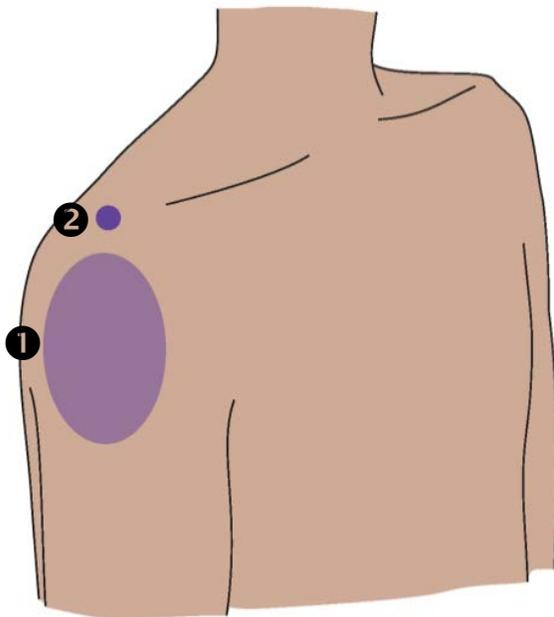

Figure 11. Optimal Shoulder Location
- 1 Locate the deltoid as you would to for an IM injection (Figure 11 ❶).
- 2 Palpate the acromion process (Figure 11 ❷).